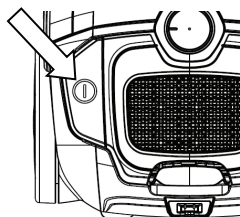

Fig. 4
Press the ON/OFF switch (12) with your foot to start the vacuum cleaner (Fig 4).